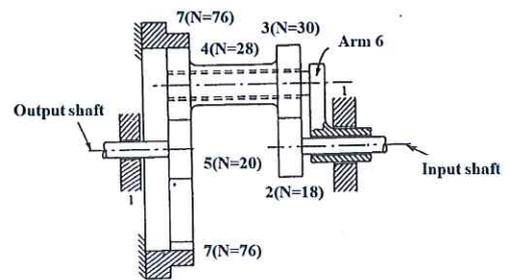

Fig.5. Planetary gear train
5. Fig. 5 shows a gear reducer with ring gear 7 fixed. If sun gear 2 is the input link and sung gear 5 is the output link, if  $\omega_2=2400\text{rpm}$  (CCW), please find  $\omega_5$  (value and its direction).